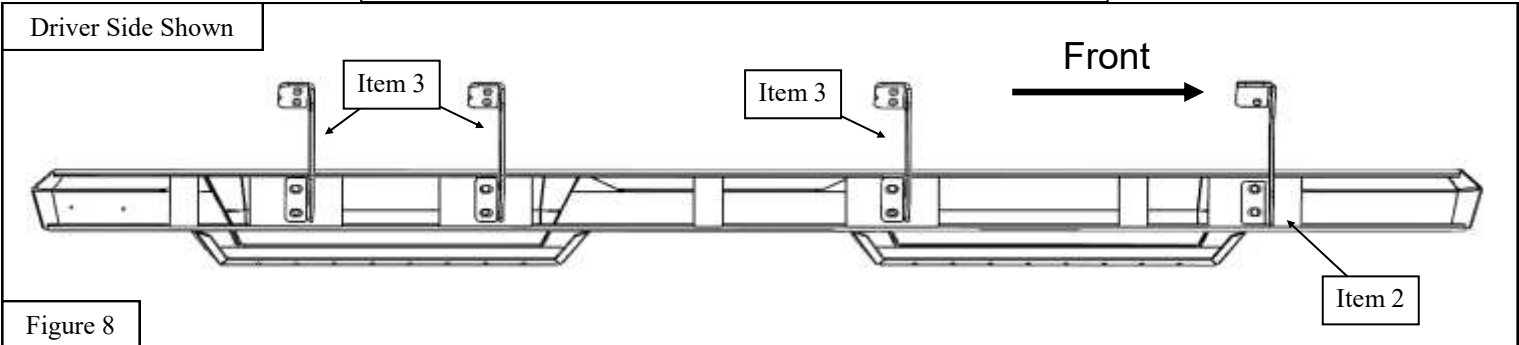

Figure 8
7. Repeat **Steps 3 & 6** for the opposite side of the vehicle. *Note:* See **Figures 8 & 9** for the correct bracket orientation.
DOUBLE CAB SHOWN (Figures 8 & 9)